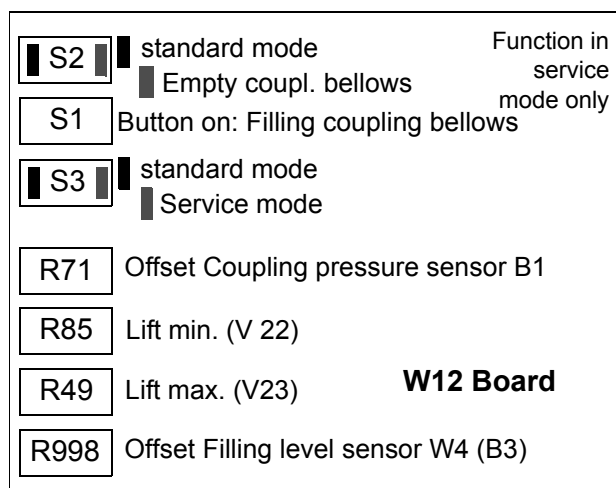

Fig. 1
- Set the following switches on board W12 (Fig. 1):